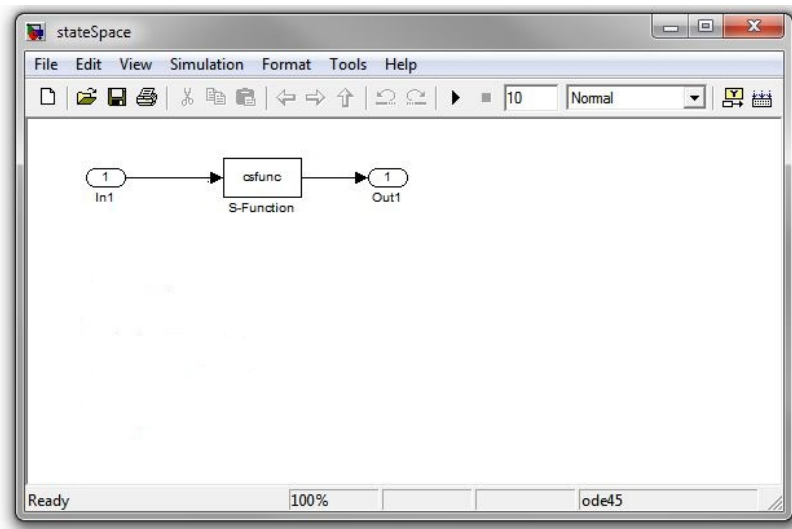

Figure 4: Simulink model of the black box.
3. Open the *stateSpace.mdl* and you will get Figure 4. **You need to have this file open for the GUI to work.**